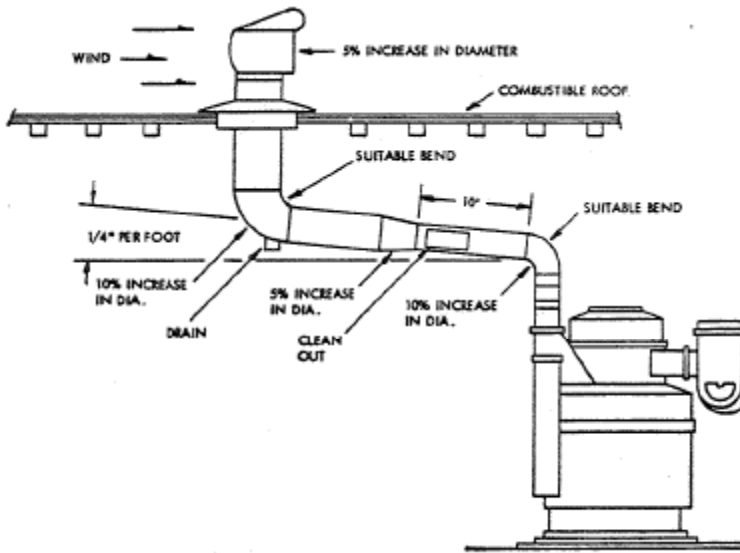

Figure 4, Stack Installation With Horizontal Run
7.7 Horizontal runs should be pitched up 1/4 inch per foot, and the diameter of the pipe should be increased 5% over the preceding pipe diameter at each 10 foot interval in the horizontal run. A 10% increase in pipe diameter over the preceding diameter must be made at each elbow. (See Figure 4) Horizontal runs should be provided with a clean out door. Round stacks and breeching are preferred.